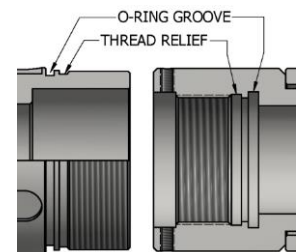

Fig 3
**CAUTION4**: To ensure tool operates properly, install o-rings in o-ring grooves **NOT** thread reliefs (Fig 3).